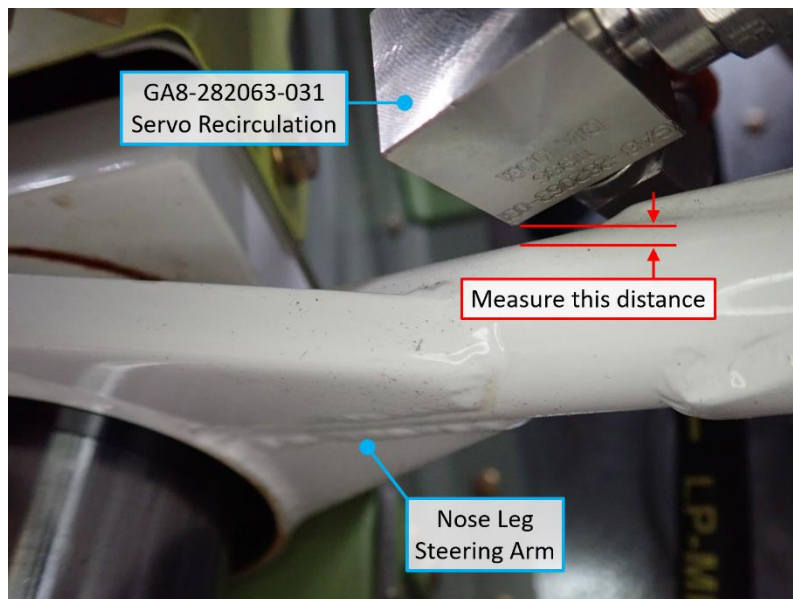

Figure 2: View of area with minimum clearance.
3. With the nose wheel turned to the right at full lock, measure the clearance between the Servo Recirculation fitting and nose leg steering arm as shown in Figure 2. Carry out the appropriate action listed in Table 3;